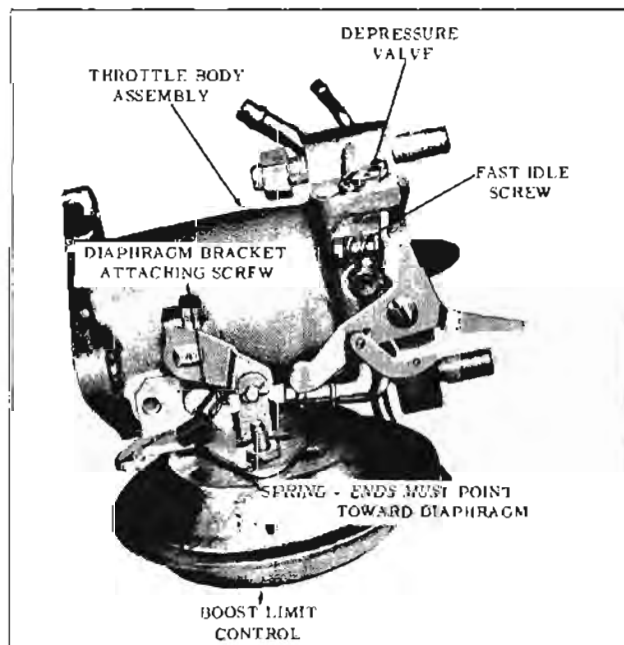

Fig. 9-123 Throttle Body
4. Connect boost limit control diaphragm opening spring to auxiliary throttle shaft lever and to hole on diaphragm bracket. (Fig. 9-123)